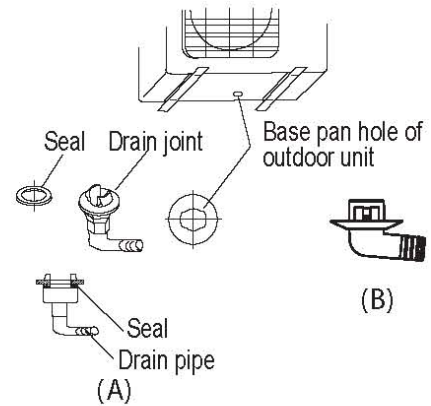

Fig.11
**NOTE:** The drain joint is slightly different according to different unit specifications. For the drain joint with the seal (Fig.11 (A)), first fit the seal onto the drain joint, then insert the drain joint into the base pan hole of outdoor unit, rotate 90° to securely assemble. To install drain joint as shown in Fig.11 (B), insert the drain joint into the base pan hole of outdoor unit until it remains fixed with a clicking sound. Connect the drain joint with an extension drain hose (locally purchased) in case of water draining off the outdoor unit during heating mode.